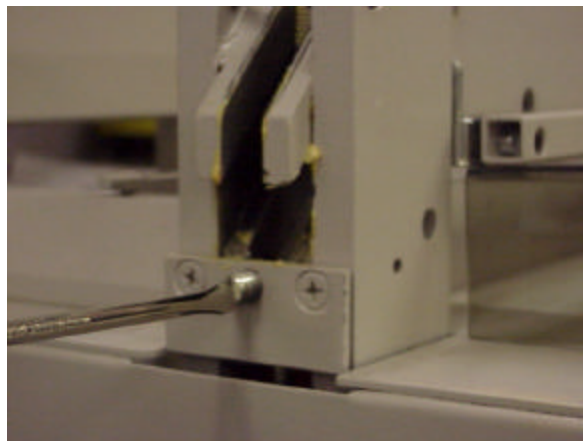

Fig. 9
7. If there is no clearance, or the paper begins to cut before the Handle is all the way down, a Knife Carrier adjustment is needed. This adjustment is on the left side of the Knife Carrier. You can turn the Screw clockwise to raise the Knife Carrier, and counter-clockwise to lower the Knife Carrier. Either way you make the adjustment you can watch the movements by getting eye level with your work and watching as you make the necessary adjustments. See Figure 9.